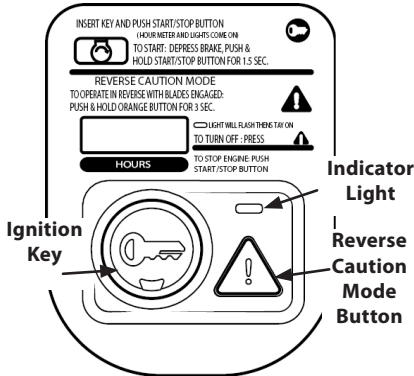

Figure 28
2. Press the REVERSE CAUTION MODE button and hold for 3 seconds. The indicator light will flash for 3 seconds and will stay on when the REVERSE CAUTION MODE is activated. See Figure 28.
3. The indicator light above the REVERSE CAUTION MODE button will be ON while activated. See Figure 28.